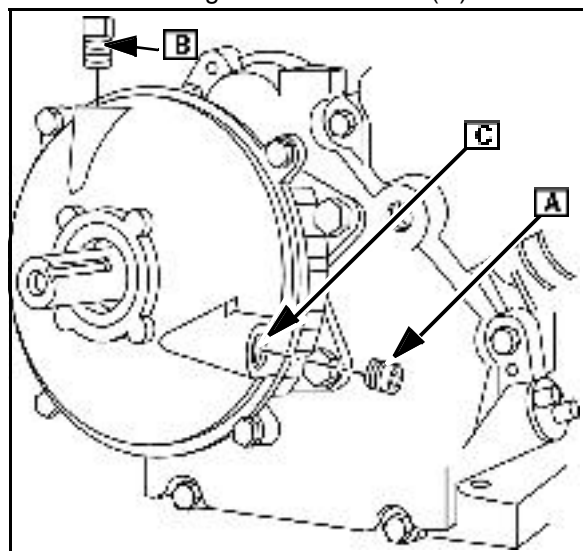

Fig. 30
1. To fill gear case, remove oil level plug ([A] Fig. 30) and oil fill/vent plug (B).
3. Fill gear case just to the point of overflowing at the lower hole (C).